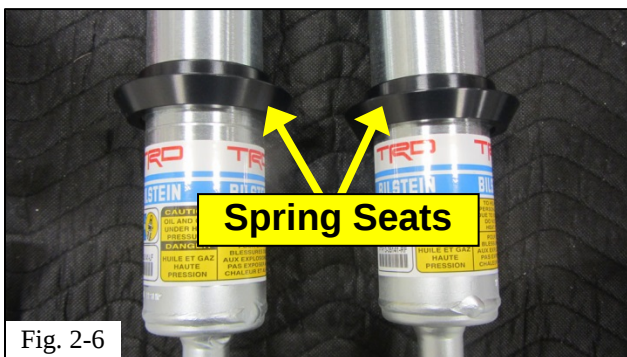

Fig. 2-6
(3) Install the spring seats onto the TRD shock absorber as shown (Fig. 2-6).